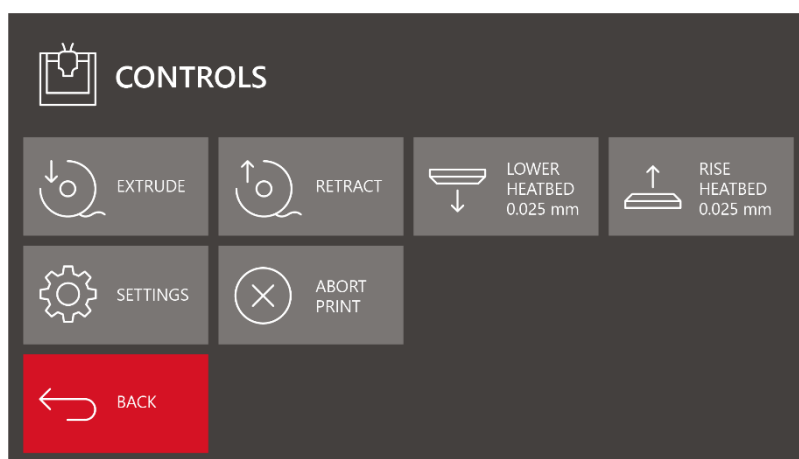

Fig. 32 Controls menu in the printer's working mode
**CONTROLS** - activates the menu for manual control of the 3DGence DOUBLE P255 printer's functions (fig. 32). During operation, the "RISE HEATBED" and "LOWER HEATBED" commands can be often used in order to adjust the height of the first printout layer. The functions can be used when printing and during a pause in printing.